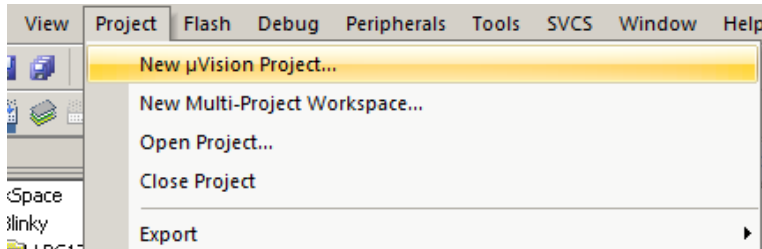

Figure 8.1: Keil IDE: Create a New Project
- Project \rightarrow New μ Vision Project (See Figure 8.1)